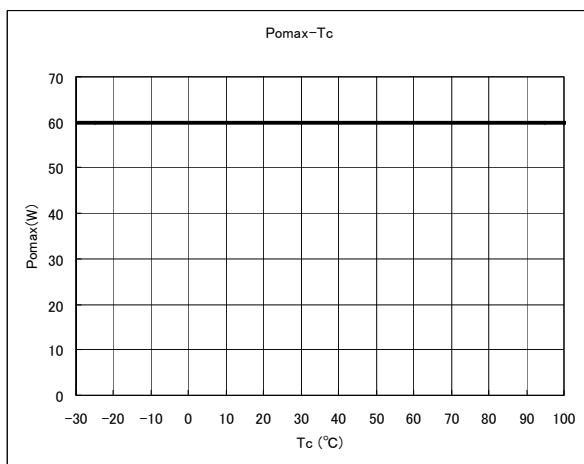
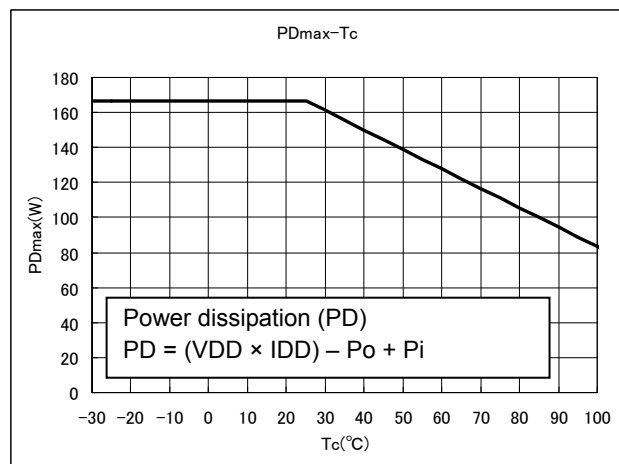

Figure 1 Pomax-Tc
Figure 2 PDmax-Tc
Note 2: The output power rating satisfies the range shown in Figures 1 and 2 according to the operating case temperature. Ensure that the device should be operated within the specified operating range. The figures below indicate the output power obtained 2 seconds after P_o is generated.
*When the device is used at T_c = 100°C, the output power rating is 60 W as shown in Figure 1. When the power dissipation at T_c = 100°C exceeds the rating shown in Figure 2, the output derating is required to limit the dissipation within the specified range.
Note 5: The output power is intended to follow the rating provided in Figure 1 in Note 2.